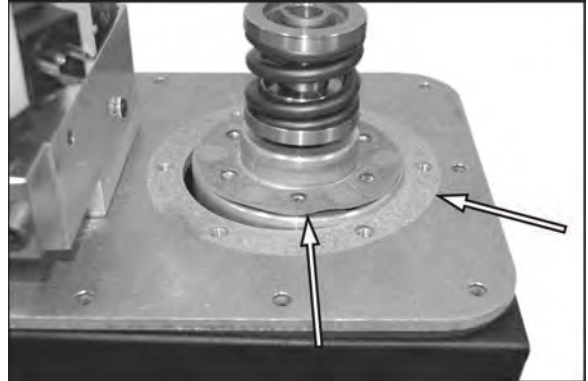

Figure 34.
3. See Figure 34. Remove the gasket and clean the